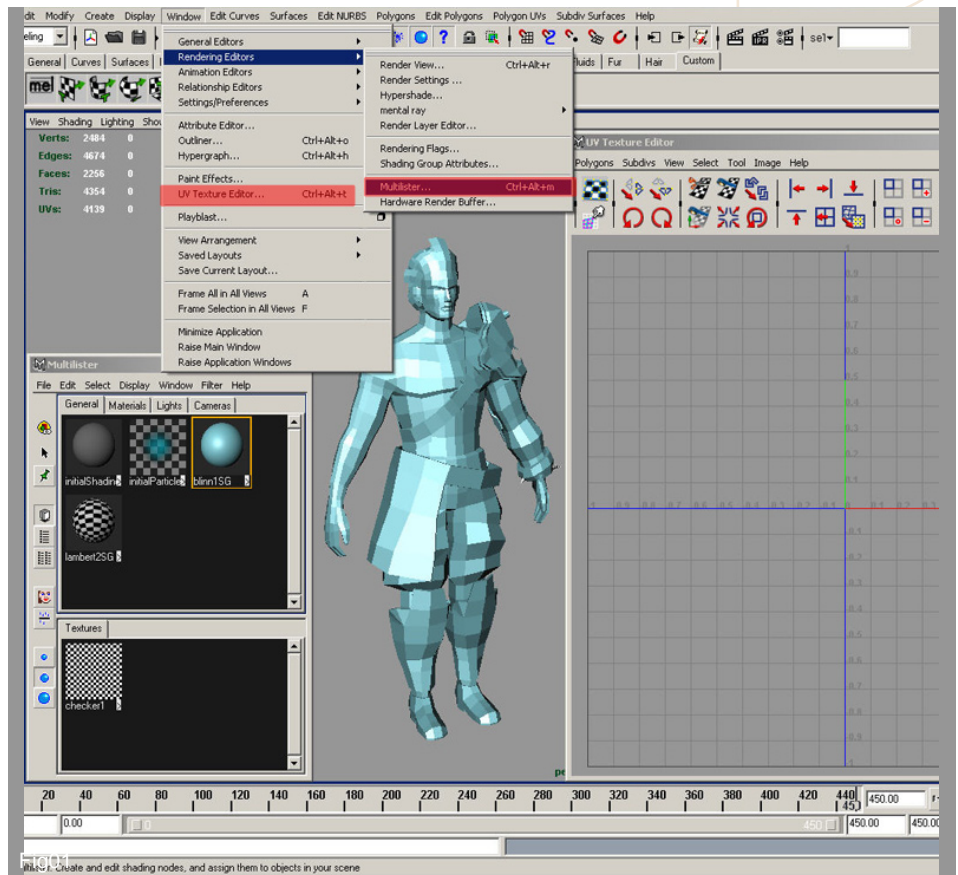

Fig02
2. Now we are going to create a new SG, assign a checker file as texture and assign the new formed SG to our warrior. In Fig02 you can see four steps to create a SG with a checker.